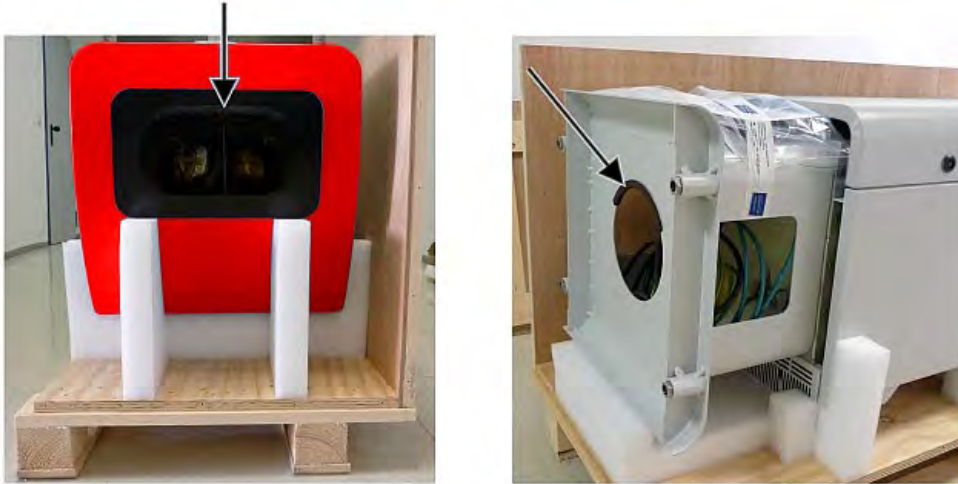

Figure 7 Lifting positions and handle protection (edge protection profile).
- ⇒ Carefully lift the CHM 8k out of the polystyrene packaging or paper honeycomb packaging by hand, observing all safety regulations. (Lifting positions: Figure 7).
- ⇒ To carry: Grasp the equipment in the openings marked with arrows (Figure 7).